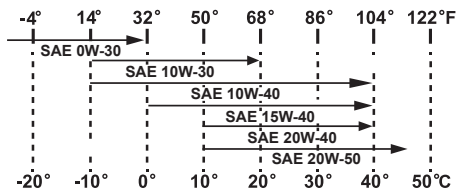

Figure 5-12
- See Figure 5-12 for oil recommendations.